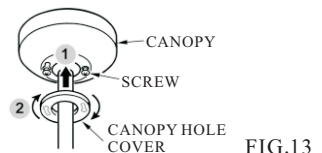

FIG.13
- Place the canopy hole cover over the screws and twist the cover to tighten. (See fig. 13)